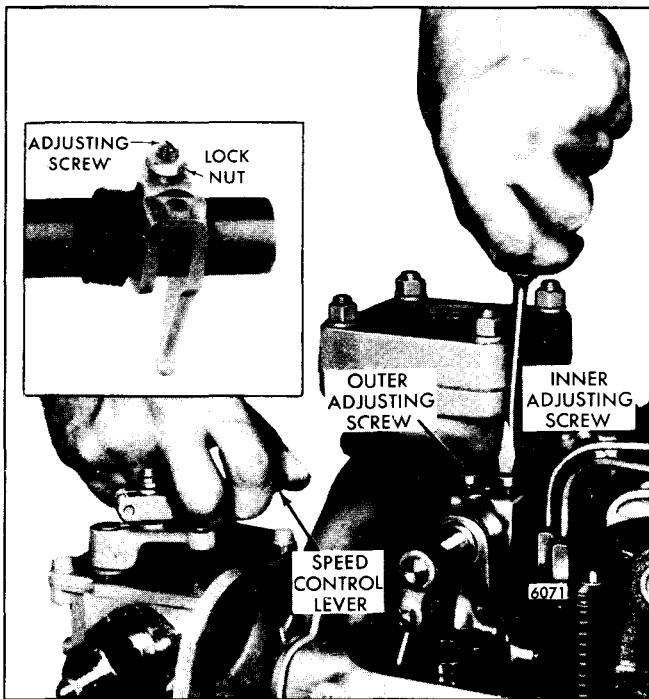

Fig. 2 – Positioning the Rear Injector Rack Control Lever
4. Loosen all of the inner and outer injector rack control lever adjusting screws or the adjusting screws and locknuts (Fig. 2). Be sure all of the levers are free on the injector control tube.